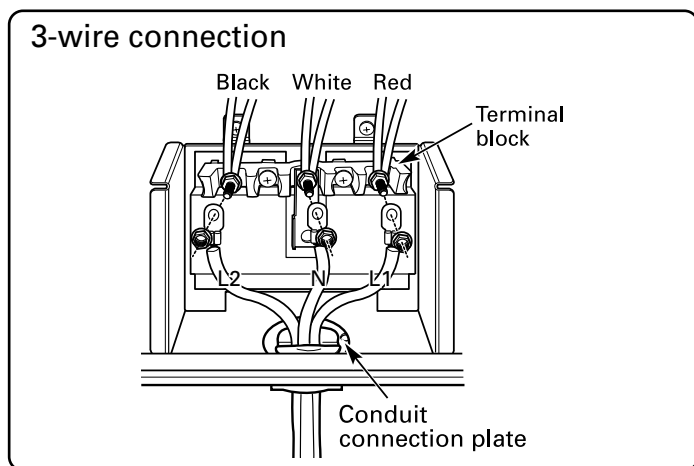

FIGURE 6
1. Remove the 3 nuts from the terminal block and retain them. (Refer to Figure 6.)